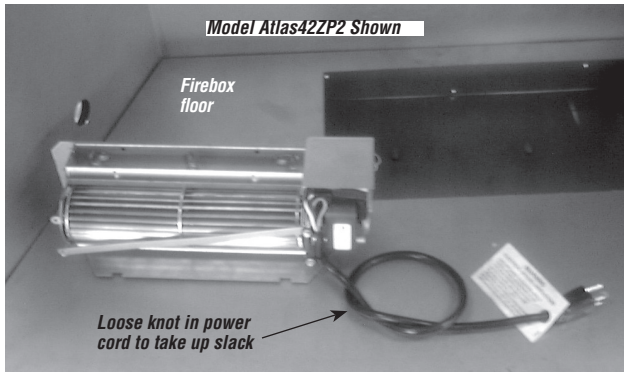

Figure 20
Step 3. Loosely tie a knot in the power cord to take up slack (see **Figure 20**).